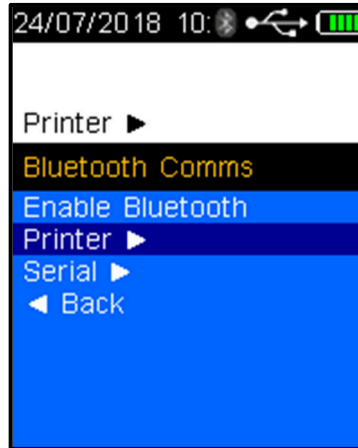

Figure 34 - Selecting Printer
- Press the down button once and use the test key to select Printer (Refer to Figure 34).